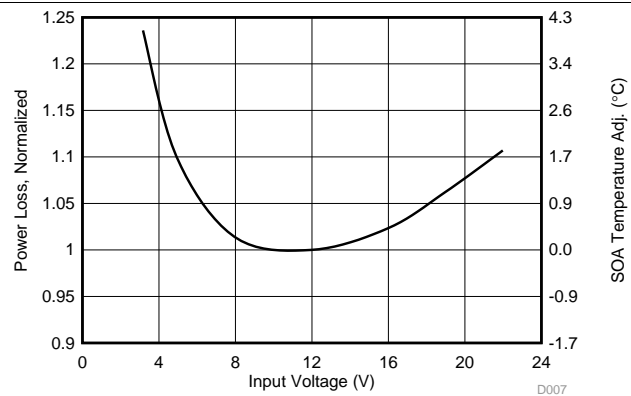

Figure 6. Normalized Power Loss vs Input Voltage
- Normalized Power Loss for input voltage ≈ 1.01 (Figure 6)
- SOA adjustment for input voltage $\approx 0.14^\circ\text{C}$ (Figure 6)